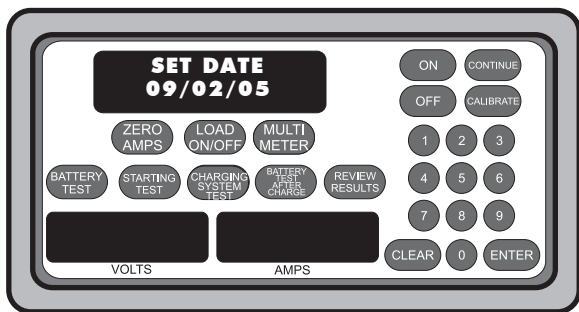

Figure26
2. The display reads: "SET DATE xx/xx/xx" (see Figure 26). If the displayed date is correct, press [CONTINUE] and go to Step 4.